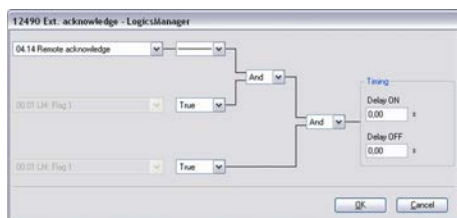

Fig. 206: LogicsManager function "Ext. acknowledge"
3. ➤ Configure the LogicsManager function "Ext. acknowledge" as shown in (Fig. 206).